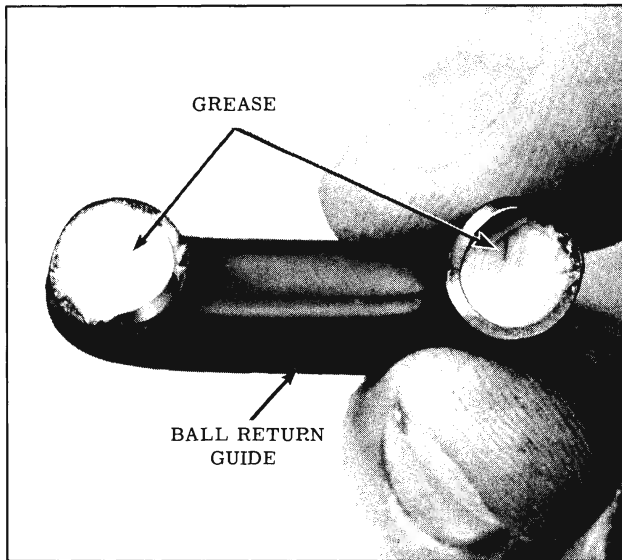

Fig. 4-221 Packing Ball Guides
4. Close this half of guide with the other half. Hold the two halves together and plug each open end with petrolatum so balls will not drop out while installing guide (Fig. 4-221).